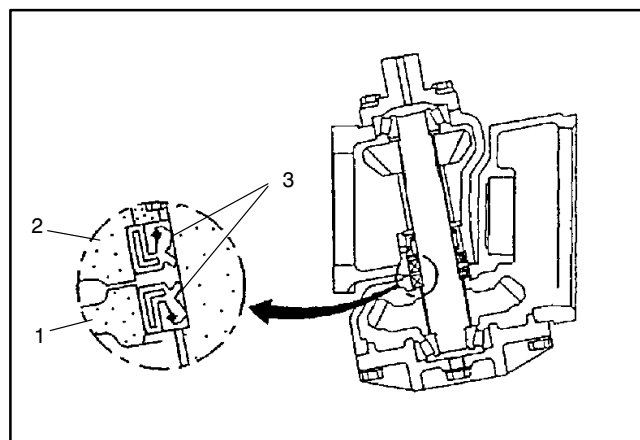

Figure 6
1. Coat new shaft seals with grease and install in axle case and bevel gear case as shown (Fig. 6).